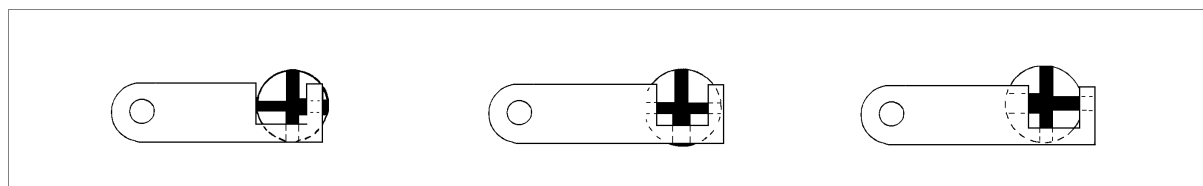

Fig. 19
- 3) Rest the key stop against the bar in one of the three positions (fig.19).